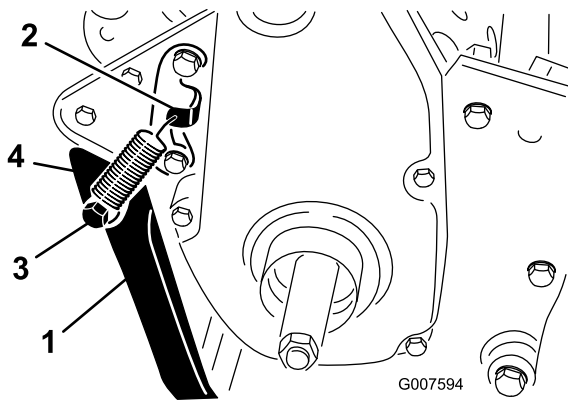

Figure 7
2. Hook the spring into the hole in the spring bracket and onto the spring stud while aligning the kick stand with the mounting holes in the rear frame (Figure 7).